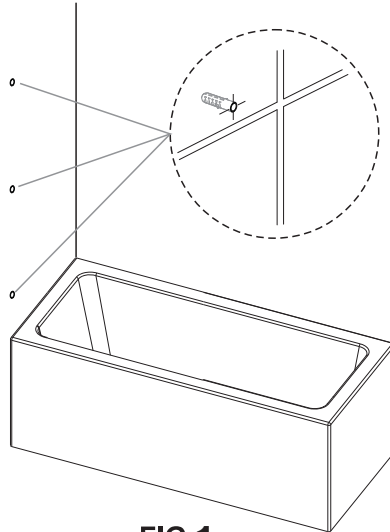

FIG 1
1. Silicone on the bath edge if not siliconed previously **fig 1**.
1. Replace current wall plugs if required with MERLYN wall plugs supplied with Easy-Fit profile to ensure bath screen will be secure. (FIG 1)